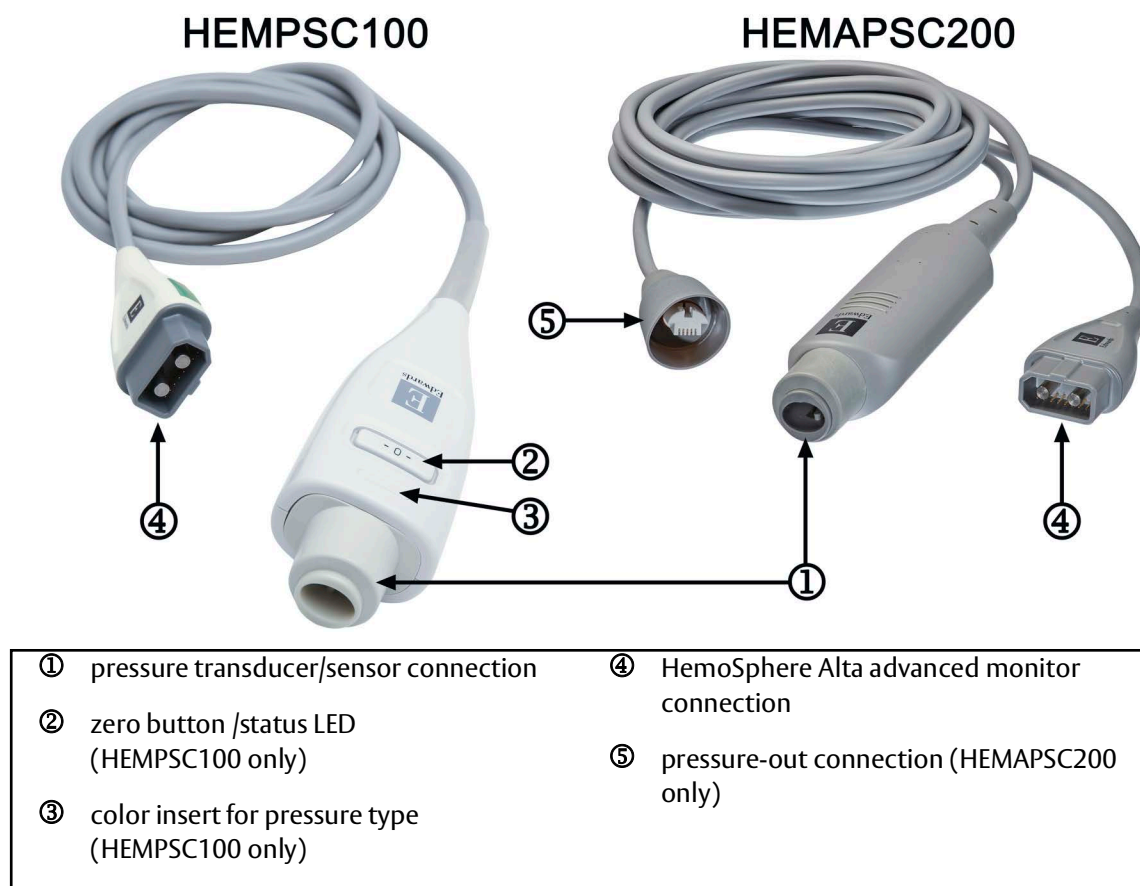

Figure 9-1 HemoSphere pressure cable
The HemoSphere pressure cable is a reusable device that connects with the HemoSphere Alta advanced monitor on one end ④ and any approved single Edwards disposable pressure transducer (DPT) or sensor on the other end ①. See Figure 9-1 on page 153. The HemoSphere pressure cable acquires and processes a single pressure signal from a compatible Edwards DPT, such as the TruWave DPT, or a FloTrac sensor. A FloTrac or Acumen IQ sensor connects to an existing arterial catheter to provide minimally invasive hemodynamic parameters. A TruWave transducer can connect to any compatible pressure monitoring catheter to provide location based intravascular pressure. Refer to the directions for use provided with each catheter for specific instructions on catheter placement and use, and for relevant warnings, cautions and notes. The connected technology type appears on the top of the parameter tile (see Figure 4-2 on page 80). The three technology types available are based on the paired sensor/transducer: **FloTrac** sensor, FloTrac Jr sensor, Acumen IQ sensor (**IQ Sensor**) or **TruWave** sensor. Parameters in the parameter configuration menu are categorized by technology. The appearance and connection points for the HemoSphere pressure cable are shown in figure 9-1.
Pressure Type Color Insert. If desired, the appropriate color insert can be used on the pressure cable to indicate the monitored pressure type (HemoSphere pressure cable only, HEMPSC100). See ③ in figure 9-1. The colors are as follows:
- 7 Use a straight in or out motion to connect the green connector of the primed FloTrac/FloTrac Jr sensor. The pressure cable LED that surrounds the zero button (see ② in figure 9-1) will flash green indicating that the pressure sensor is detected. A yellow light indicates a fault condition. If this occurs refer to the status bar for specific fault condition details.
Press the physical zero button  directly on the pressure cable (HEMPSC100 only) and hold for three seconds (see figure 9-1).